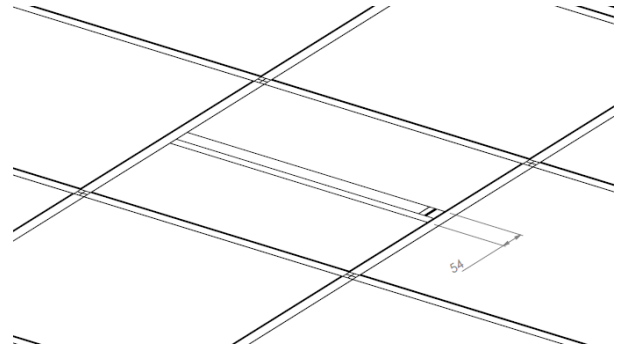

FIG. 5
- Insert the two pieces of tile as shown in Fig. 5 with the gap where specified by the architect.